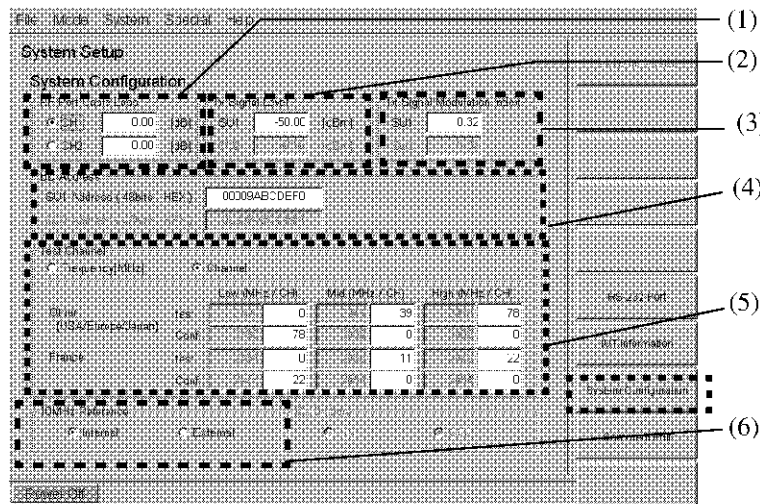

Figure 2-34 System Configuration Setting
This section describes the System Configuration settings ((1) to (6) in Figure 2-34).
1. Enter the cable loss when the IUT is connected to the CH1 or CH2. ((1) in Figure 2-34.)
2. Set the RF transmission output level of the R4870 system. ((2) in Figure 2-34.)
3. Set the modulation index of the R4870 built-in communication unit. ((3) in Figure 2-34.)
4. Set the BD Address of the R4870 built-in communication unit. ((4) in Figure 2-34.)
Use the external keyboard to enter the address. ((3) in Figure 2-34.)
5. Set the frequency or channel conditions of the RF communication test. (See (5) in Figure 2-34.)
6. Select the reference frequency source (10 MHz). ((6) in Figure 2-34.)